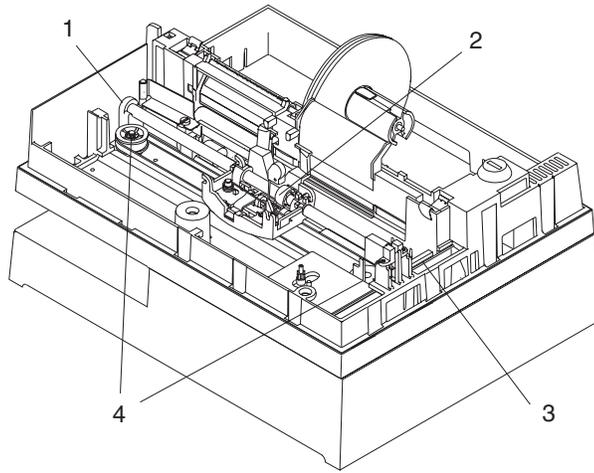

Figure 5-23. Print Head Carriage and Shaft
- 4 Remove the belt from the drive motor pulleys (4) and move the carriage to the left. Make sure that the belt spring does not fall off and get lost. See Figure 5-23 on page 5-33.
- 5 Release the holding tab (3).